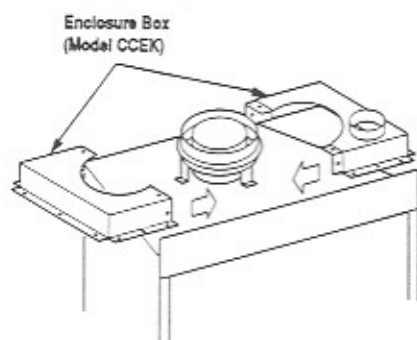

Figure 10
Step 6. Attach the chimney collar enclosure kit, Model CCEK, around chimney collar with the screws provided (Figure 10).